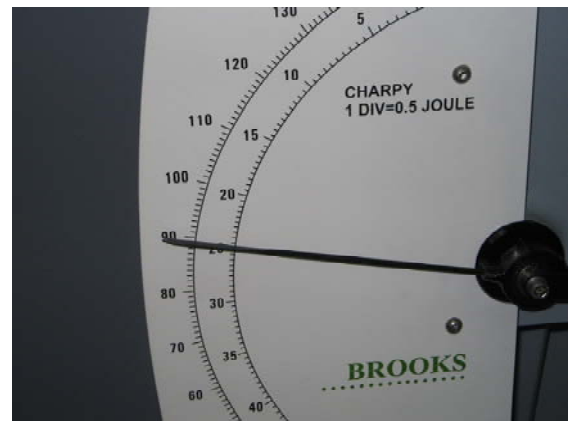

Fig.7.12: read the dial
- Read the energy absorbed by the broken specimen from the pointer on the dial See Fig.7.12.